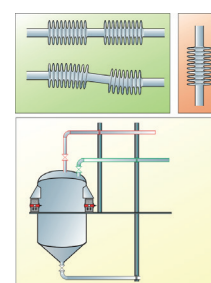

Figure 14. The connection of supply and discharge systems.
It is clear the first two factors are largely limited by fastening the supply/discharge on the same floor as the weighers, see figure 14.
- ▶ .Because no further provisions are required then, this method is preferred. If this cannot be met, the required freedom of movement must be obtained in another way. Depending on the media to be transported, bellows or compensators are recommended for this purpose. These are available in various types of steel, stainless steel, rubber, plastic and synthetic rubber. If a choice has to be made, the compensators will have to comply with the above. Furthermore, for installation in vertical sections one compensator, and in horizontal sections two compensators, must be provided, see also figure 14.